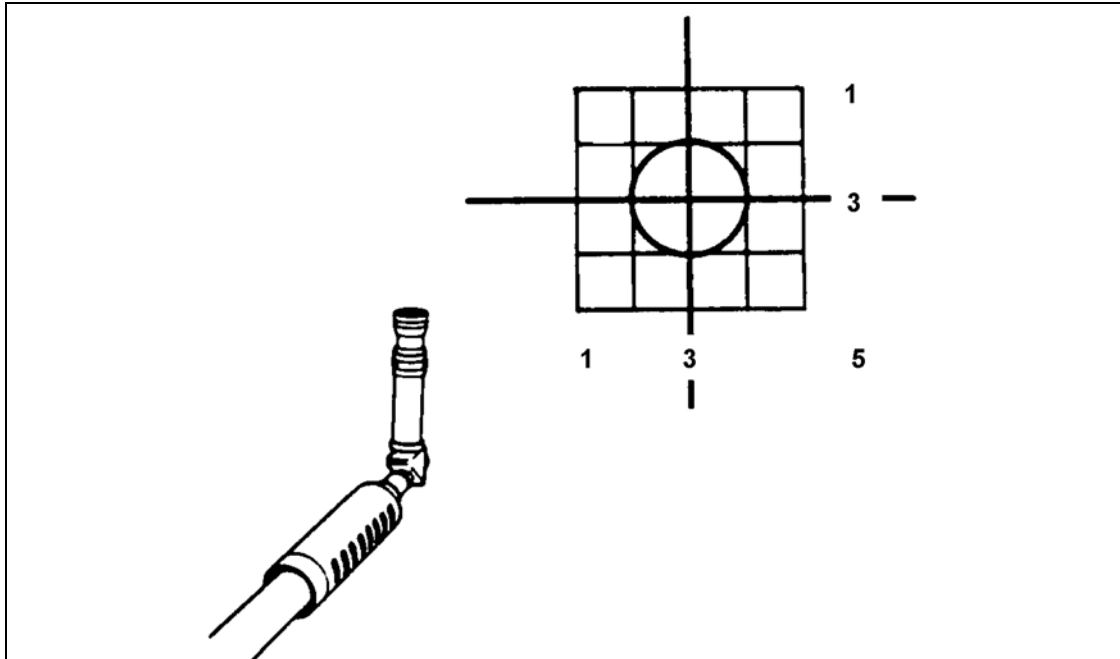

Figure B-19. Reticle aimed at center of panel.
- (1) Insert the adapter into the gun barrel.
- (2) Insert the telescope into the adapter with the eyepiece facing up.
- (3) Tell the gunner to lay the gun so that the telescope reticle aims at the center of the panel.
- (4) Focus the telescope (Figure B-19).